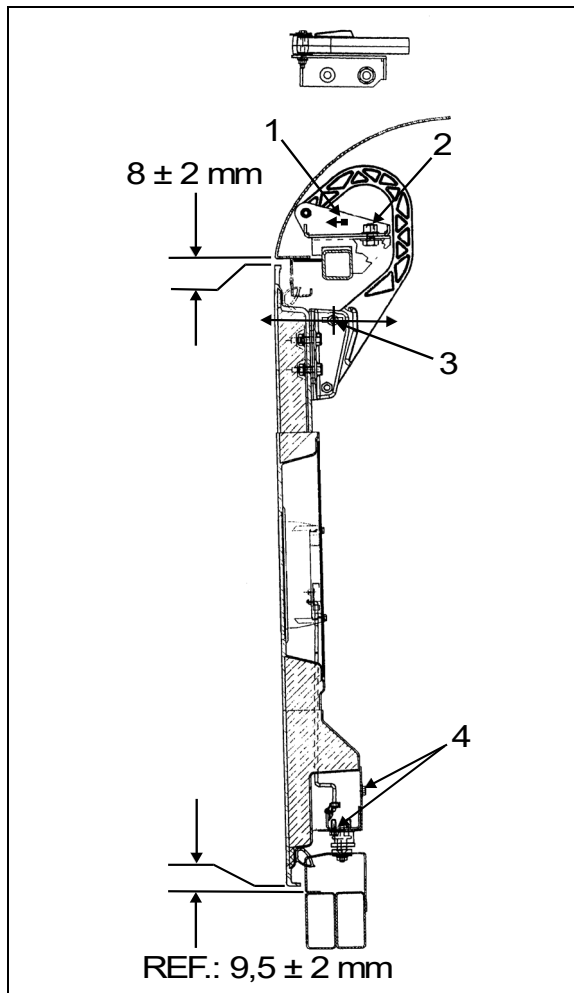

FIGURE 92: DOOR HINGE
2. Loosen nut (2, Figure 92).
3. Move part (1, Figure 92), as close as possible to exterior of coach, so as to have enough clearance for proper door opening.
4. Tighten nut (2, Figure 92).
5. Loosen nut (3, Figure 92). Hinge allows the door to be shifted "IN or OUT".
6. Adjust door panel to have the same gap space as neighboring panels or refer to Figure 72 for specified gap space. Only if necessary, use the adjustment allowed by moving part 1, Figure 92.